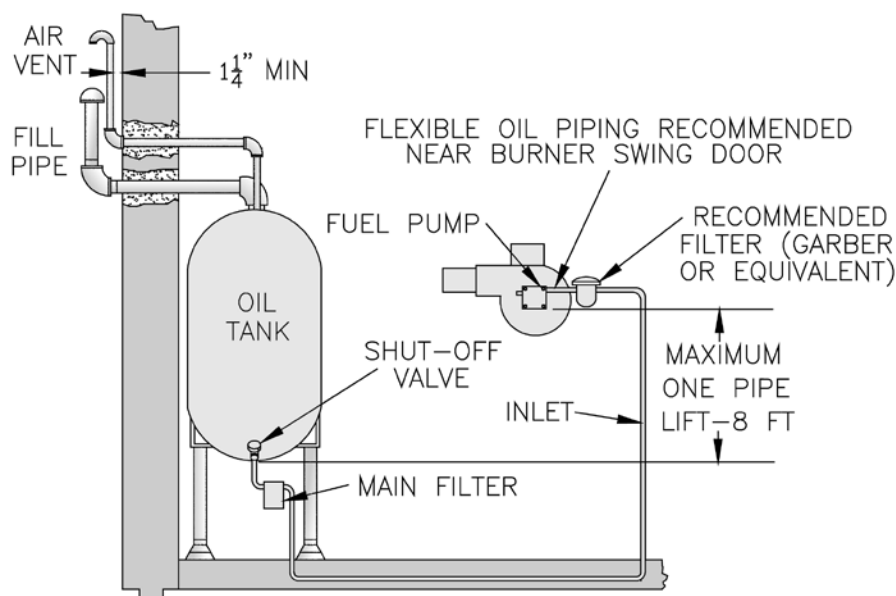

Figure 31: Single Pipe Oil Line
2. The single-stage fuel unit may be installed single-pipe with gravity feed or lift. Maximum allowable lift is 8 feet. See Figure 31.